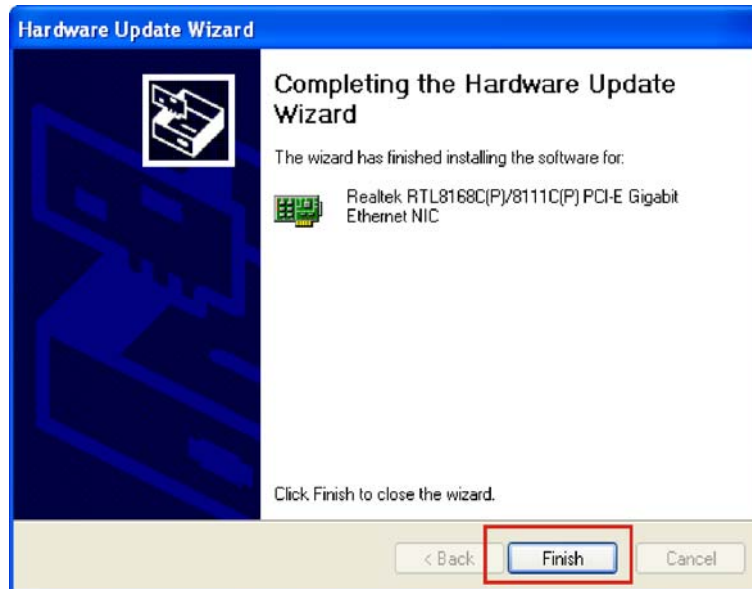

Figure 6-20: Hardware Installation Complete
Step 9: After the installation wizard finds the Gigabit Ethernet driver, the **Hardware Update Completed** window appears (Figure 6-20).